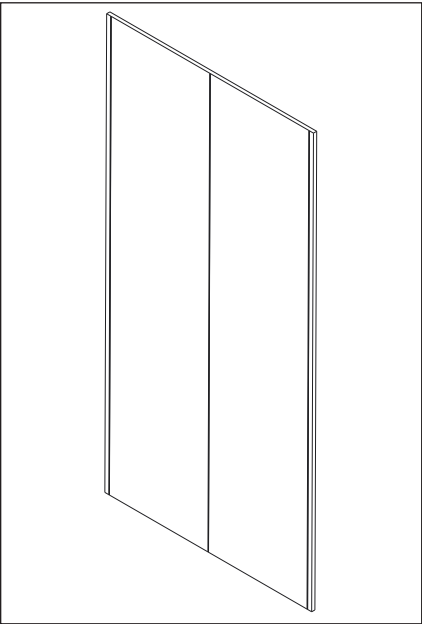

Figure 2: Marked Tube Positions
2. Check the wall for flatness and levelness with a laser level (or a level and string if a laser level is not available). Refer to **Figure 2**.